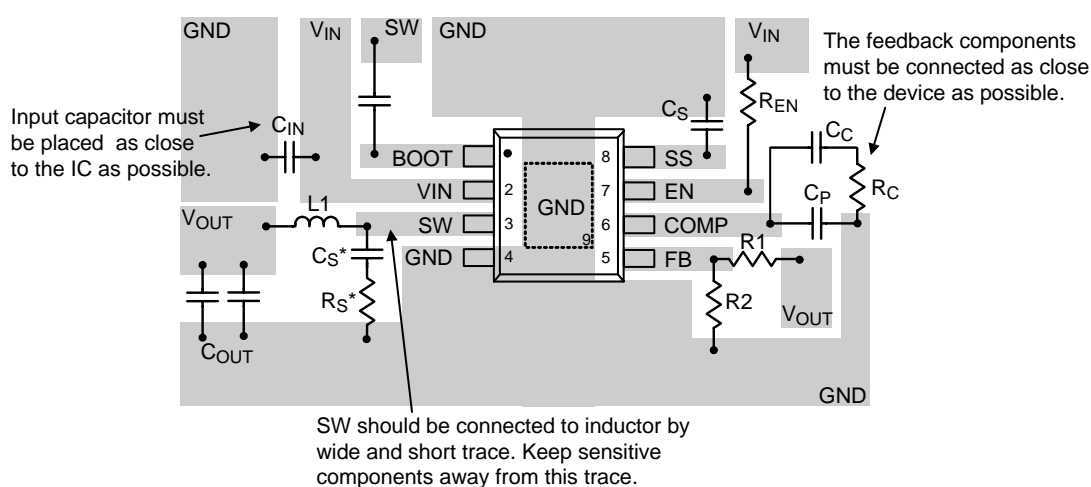

Figure 8. PCB Layout Guide
- ▶ An example of PCB layout guide is shown in Figure 8 for reference.